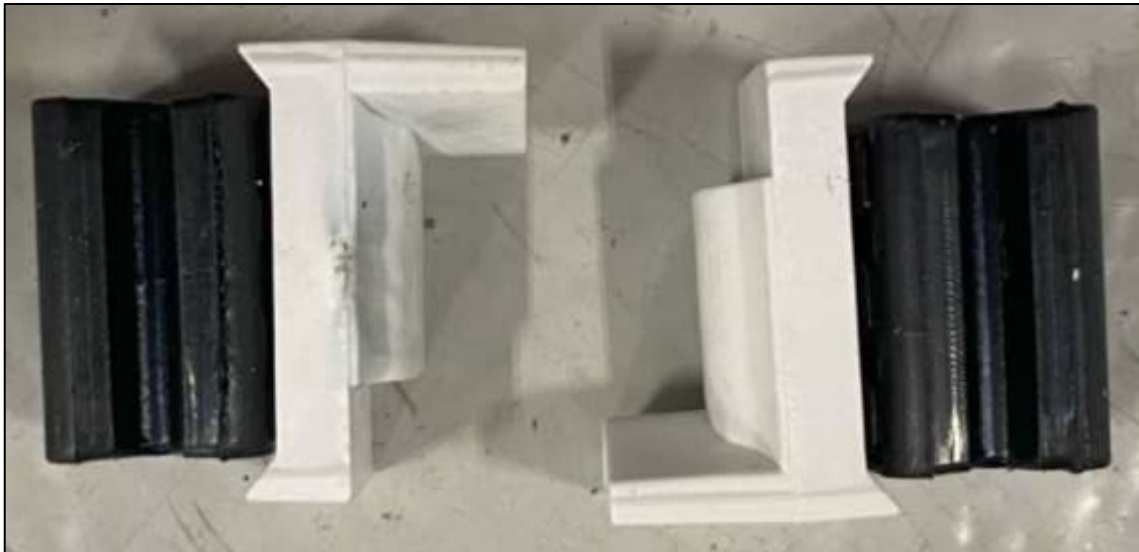

Figure 110
3. Locate (2) two Plastic Guides and (2) two Rubber Bushings. Assemble them as shown below. The nubs in the Rubber Bushings will line up with the holes in the Plastic Guides. The orientation they are shown in is how they will need to be installed into the Silver Plate. *Figure 110.*